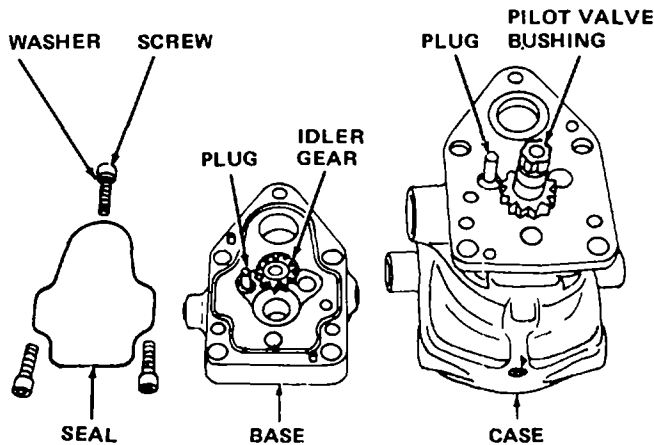

Figure 11-17. Governor Base to Case Assembly
(11) Assemble base (71) to case (96) with parts shown in figure 11-17. Insert pilot valve bushing (74, figure 11-5) in case and idler gear (75) in base.